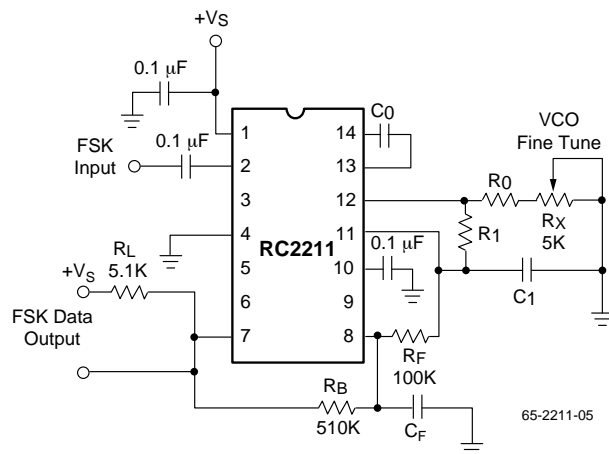

Figure 2. Circuit Connectbn for FSK Decoding
VCO can be fine tuned by connecting a potentiometer, Rx, in series with R0 at pin 12 (see Figure 2).
Figure 2 shows the basic circuit connection for FSK decoding. With reference to Figures 1 and 2, the functions of external components are defined as follows:  $R_0$  and  $C_0$  set the PLL center frequency,  $R_1$  sets the system bandwidth, and  $C_1$  sets the loop filter time constant and the loop damping factor.  $C_F$  and  $R_F$  form a one pole post-detection filter for the FSK data output. The resistor  $R_B$  (510 k $\Omega$ ) from pin 7 to pin 8 introduces positive feedback across FSK comparator to facilitate rapid transition between output logic states.
Table 1. Recommended Component Values for Commonly Used FSK Bands (see Circuit of Figure 2)
The circuit of Figure 2 can be tailored for any FSK decoding application by the choice of five key circuit components:  $R_0$ ,  $R_1$ ,  $C_0$ ,  $C_1$  and  $C_F$ . For a given set of FSK mark and space frequencies,  $F_1$  and  $F_2$ , these parameters can be calculated as follows:
**Note:** All calculated component values except  $R_0$  can be rounded off to the nearest standard value, and  $R_0$  can be varied to fine-tune center frequency through a series potentiometer,  $R_X$  (see Figure 2).